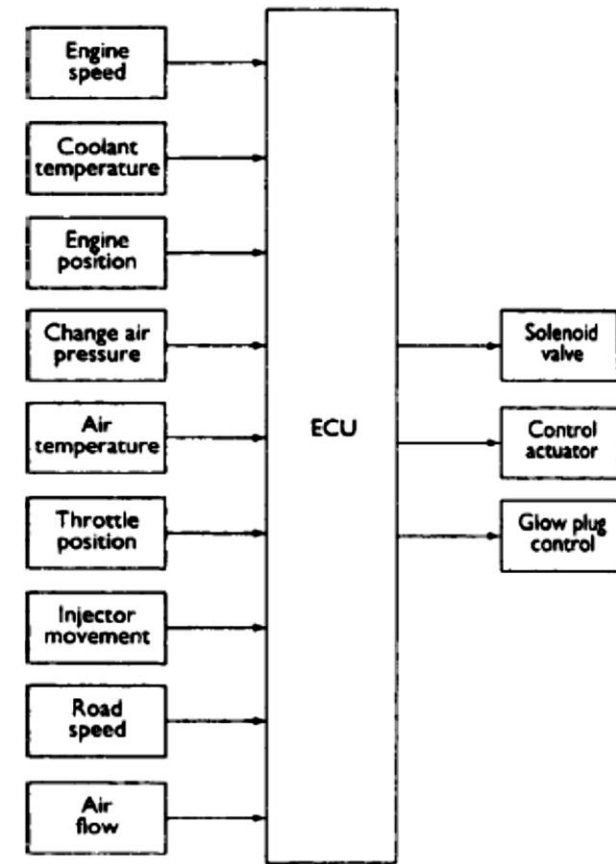

Figure 9.39 Block diagram of typical electronic diesel control system
- Figure 9.39 shows a block diagram of a typical electronic diesel control system. Ideal values for fuel quantity and timing are stored in memory maps in the electronic control unit.